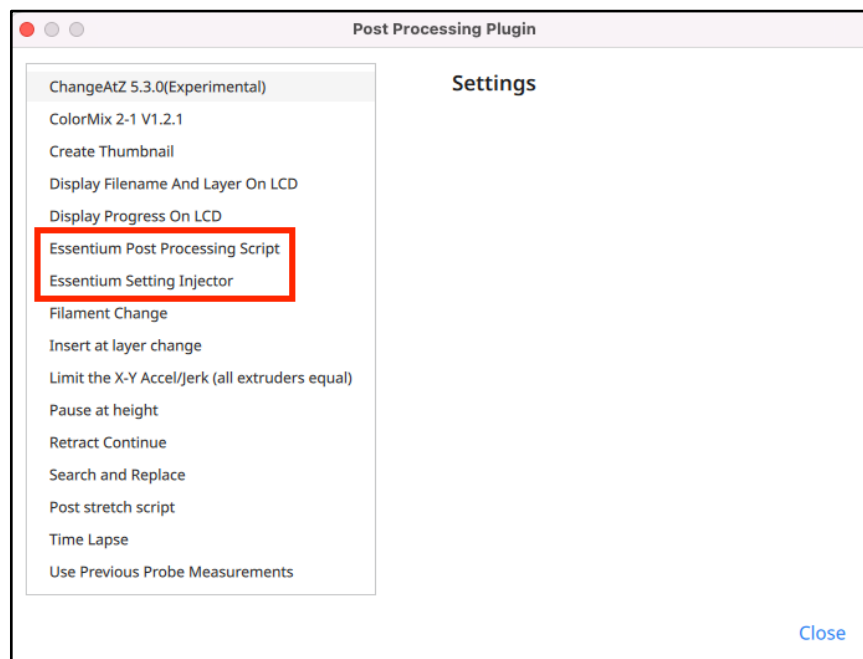

Figure 10: Adding Post-Processing Scripts
16. Add the following post-processing scripts by selecting the name from the script, and then clicking 'Close' (See Figure 10):